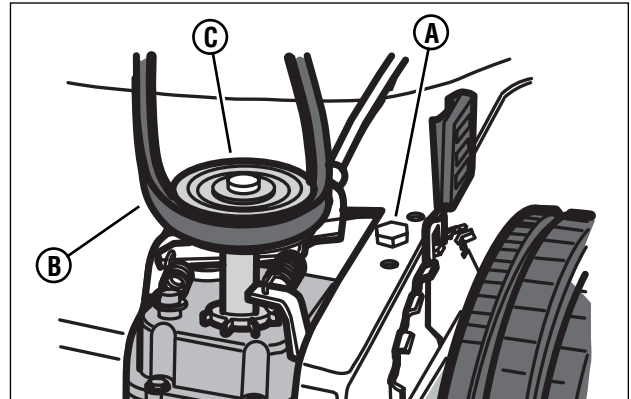

Figure 18: Loosening the belt tension bolt
3. (SP2265 & NSP2265 Only): Loosen the belt tension bolt (**A**, **Figure 18**).